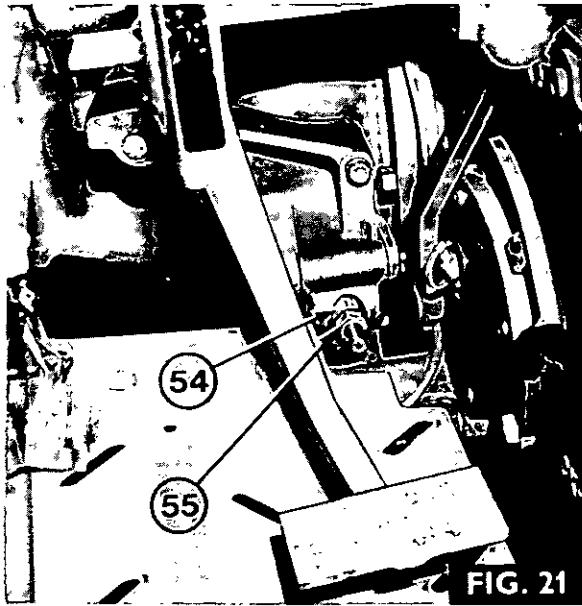

FIG. 21
4. Fig. 21. Remove the brake adjusting nut (55) and spacer (54).
5. Remove the three bolts (69) securing the actuator housing (51) to the trumpet housing, then lift off the housing.
6. Tap out the rubber boot (52).
7. Only if necessary, remove the brake pull lever (53) by removing the split pin and pushing out the pivot shaft (68).
6. Fig. 21. Refit the brake adjusting nut (55) and spacer (54).
4. Fig. 21. Adjust the nut (55) if necessary, clockwise to reduce the travel, or anticlockwise to increase it.
3. Fig 21. Remove the brake adjusting nut (55) and spacer (54).
4. Remove the three bolts (69) securing the brake actuator housing (70) then withdraw the actuator housing, complete with the differential lock pedal assembly.
5. Tap the rubber boot (52) out of the actuator housing.
7. Remove the brake components, marking them, as they are withdrawn to facilitate reassembly. The order of removal is: first friction plate (22); first interplate (23); second friction plate (22); second interplate (23); third friction plate (22); actuator unit (24); fourth friction plate (22); third interplate (23); fifth friction plate (22).
8. If necessary, remove the brake stop rod (26) from the housing.
9. Only if necessary, disassemble the actuator unit, by releasing the four springs (47) then removing the actuator rod (50) and links (48).